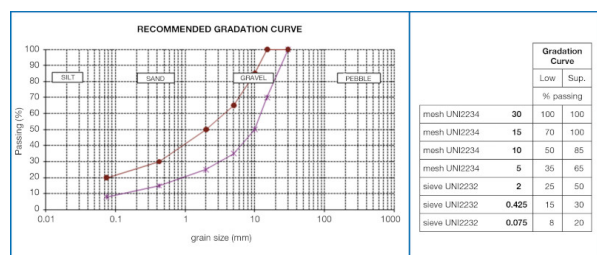

Fig. 1 - Advised gradation curve (in compliance with CNR UNI 10006 and AASHTO soil classification)
**Mapesoil 50** can be used to stabilise soil, recycled aggregates and virgin aggregates, as long as they are in classes A1-A2-A3-A4 and no lower than class A2-4 (according to CNR UNI 10006) or AASHTO soil classification. We recommend using material with a good assortment of grain sizes (such as the one recommended in Fig. 1) in order to improve the workability of the mix and the final mechanical properties of the sub-base. When recycled aggregates are used, they may be debris from demolished concrete structures, waste material from the concrete industry or the ceramics industry or aggregates from demolition work (bricks, tiles, etc.), as long as they have no foreign bodies in them such as steel reinforcement, wood, plastic and/or any other type of material that could decay. Also, to optimise the efficiency of the stabilising treatment, recycled aggregates must contain no more than 2% in weight of organic matter (according to ASTM D2974).